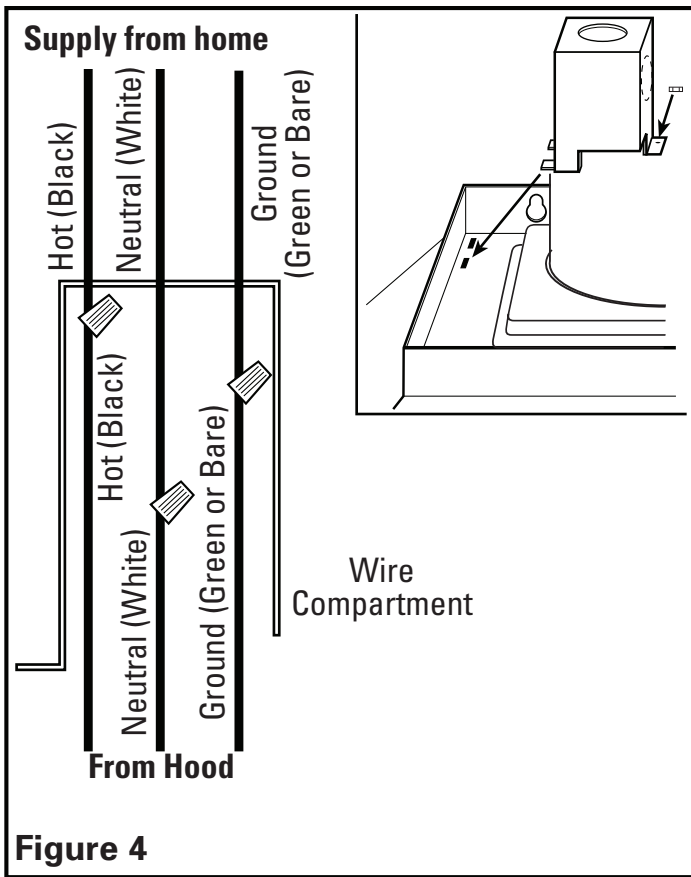

Figure 4
3. Connect the White wire from the range hood to the White wire from the supply, and the Black wire from the range hood to the Black wire of the supply. Connect the ground wire from the home (green or bare) and the Green wire from the range hood. Use approved methods for all connections. Reinstall the wire compartment by sliding the tabs back into the holes then reinstalling the screw that was removed earlier. Make sure all wiring is securely contained within the wire compartment (**Figure 4**).